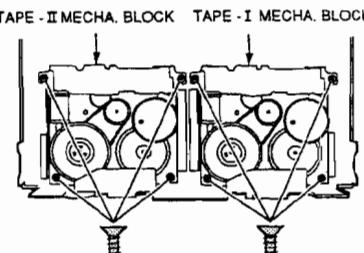

Fig. 3-15
- 4) Remove the TABLE MOTOR by pulling it out while opening the TABLE MOTOR retaining hook. Next, remove the WORM GEAR BLOCK by pulling the GEAR JOINT PART out and attach it to the new motor as shown in Fig. 3-15.